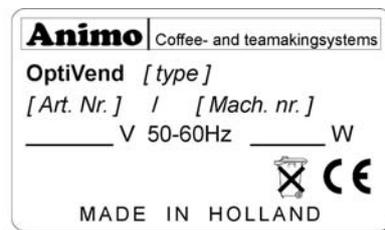

Fig 11
- Check if the details on the type plate (fig. 11) correspond.